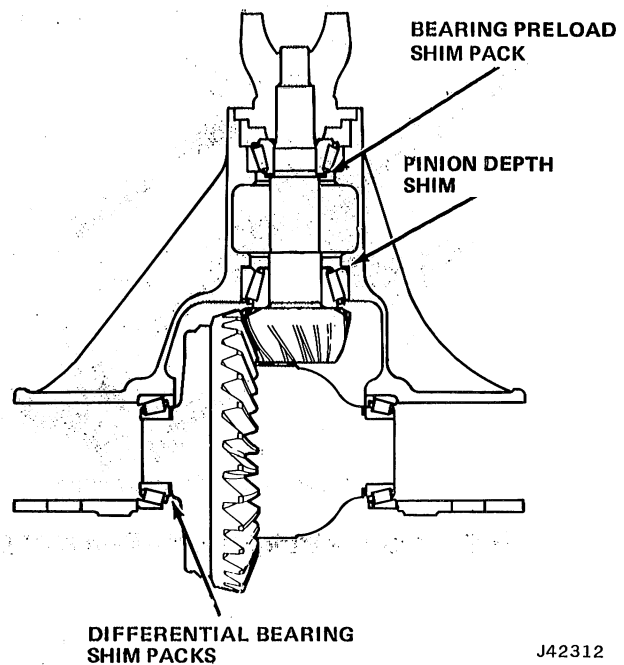

Fig. 2F-52 Differential Shim Locations
Pinion gear depth is the distance, measured in inches, from the end face of the pinion gear to the axle shaft centerline (fig. 2F-35). This dimension is controlled by shims installed between the pinion rear bearing and axle housing (fig. 2F-52).
Ring and pinion gear sets are factory tested to detect machining variances. Tests are started at a standard setting which is then varied to obtain the most desirable tooth contact pattern and quietest operation. When this setting is determined, identifying numbers are etched on the the ring and pinion (fig. 2F-36).
If the pinion is marked +2, the gear set varied from standard by +0.002 inch (0.05 mm) and will require 0.002 inch (0.05 mm) less shims than a set marked zero (0). When a set is marked +, the distance from the pinion button face to the axle shaft centerline must be more than the standard setting. If the pinion is marked -3, the set varied from standard by -0.003 inch (0.07 mm) and will require 0.003 (0.07 mm) more shims than a set marked zero. When a set is marked zero, the distance from the pinion button face to the axle shaft centerline must be less than the standard setting. Refer to figure 2F-35 for an illustration of the standard setting dimension.